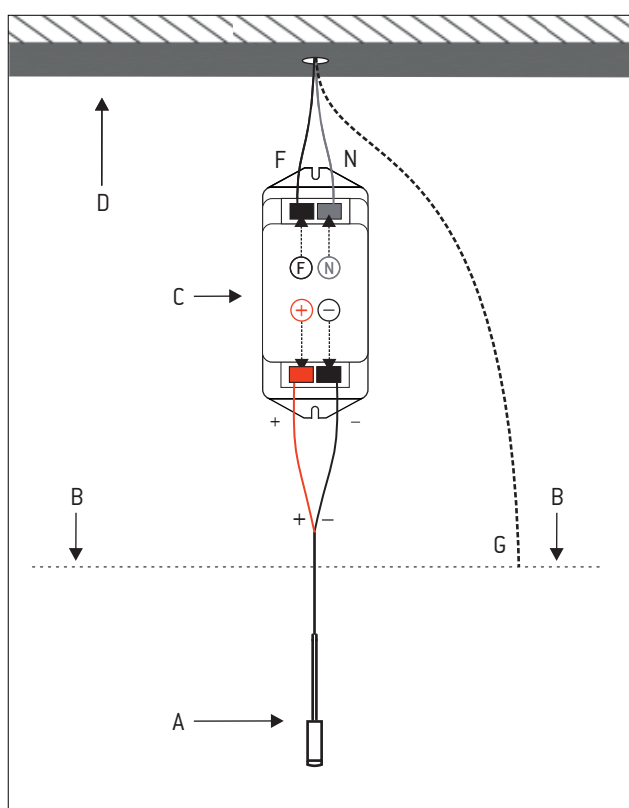

Figure 4
Make the electrical connections. The compositions must be connected serial wise using the same driver (C). Figure 4.